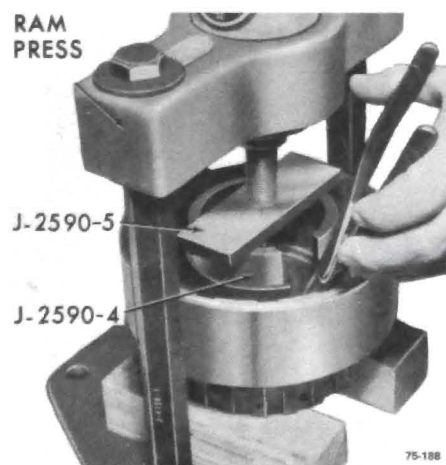

Figure 75-206
4. Install spring retainer. Compress spring retainer with an arbor press or ram press. See Figure 75-206.